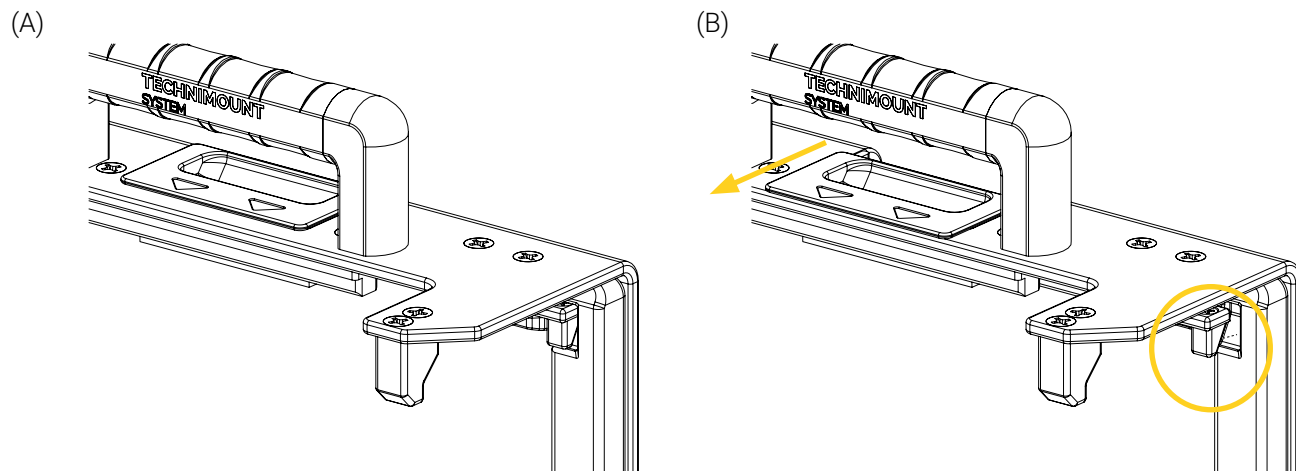

Figure 7: Unlocking the BP76–FL MCD
1. Pull and hold the trigger handle forward to unlock the mounting bracket (Figure 7).